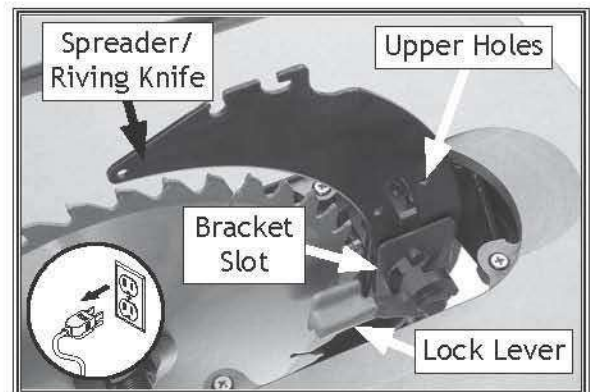

Figure 55. Lock lever used to secure spreader.
4. Insert *upper* set of holes on spreader/riving knife into bracket slot and tighten lock lever to secure spreader/riving knife (see **Figure 55**).